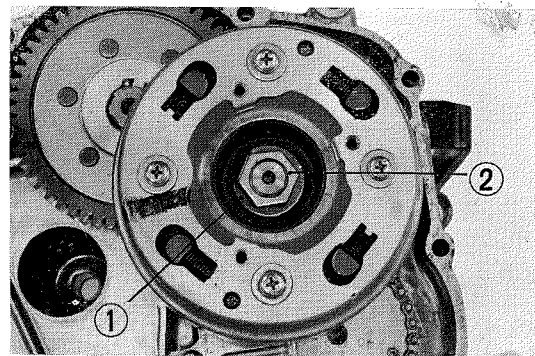

Fig. 40 ① 14mm. lock washer ② 14mm. lock nut
4. Flatten 14 mm lock washer. Holding the clutch with the clutch outer holder special tool, unscrew 14 mm lock nut and remove the clutch assembly. (Fig. 40)